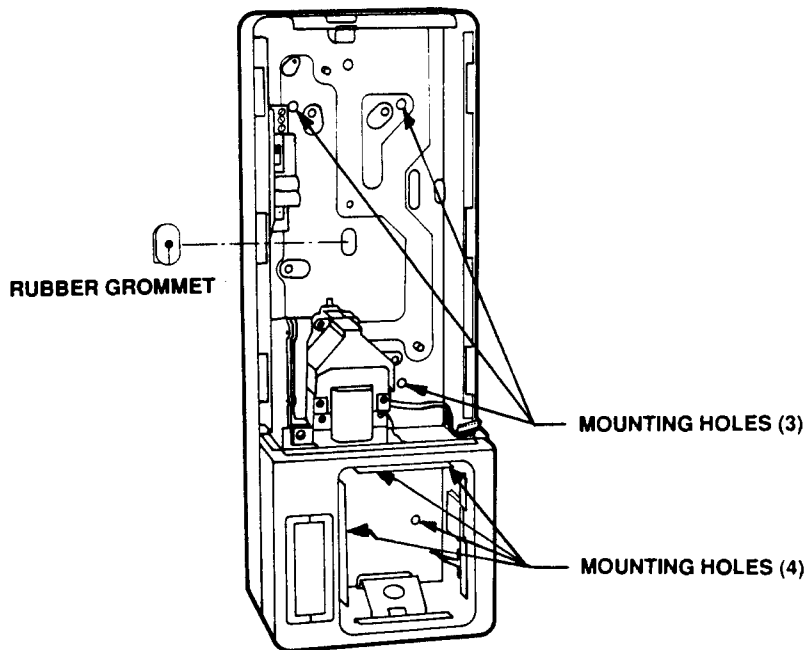

Figure 9 Rubber Grommet Location and Mounting Holes
- Remove the rubber grommet from the hole it protects (inside housing). Refer to Figure 9.
- Have an assistant hold the phone housing against the wall. (The coin insert slot should be 54" from the floor, so that the top of the housing is about 56" from the floor.) Use a spirit level to make sure the housing is vertical. Then use a pencil or pen to mark on surface (through appropriate holes inside housing) where holes are to be drilled for mounting screws. Refer to Figure 9 for the housing mounting screw holes.
- Mark where the wire entrance hole (rubber grommet hole) will be if a hole is to be drilled through the wall for the electrical power cable, ground wire, and 2-conductor telephone cord. Refer to Figure 9.
- If a backboard is being used, place the security studs protruding from the back of the phone into the keyhole slots on the backboard and let the phone drop into position. Screw the phone to the backboard using the seven mounting screws shipped with the phone (see Figure 9).